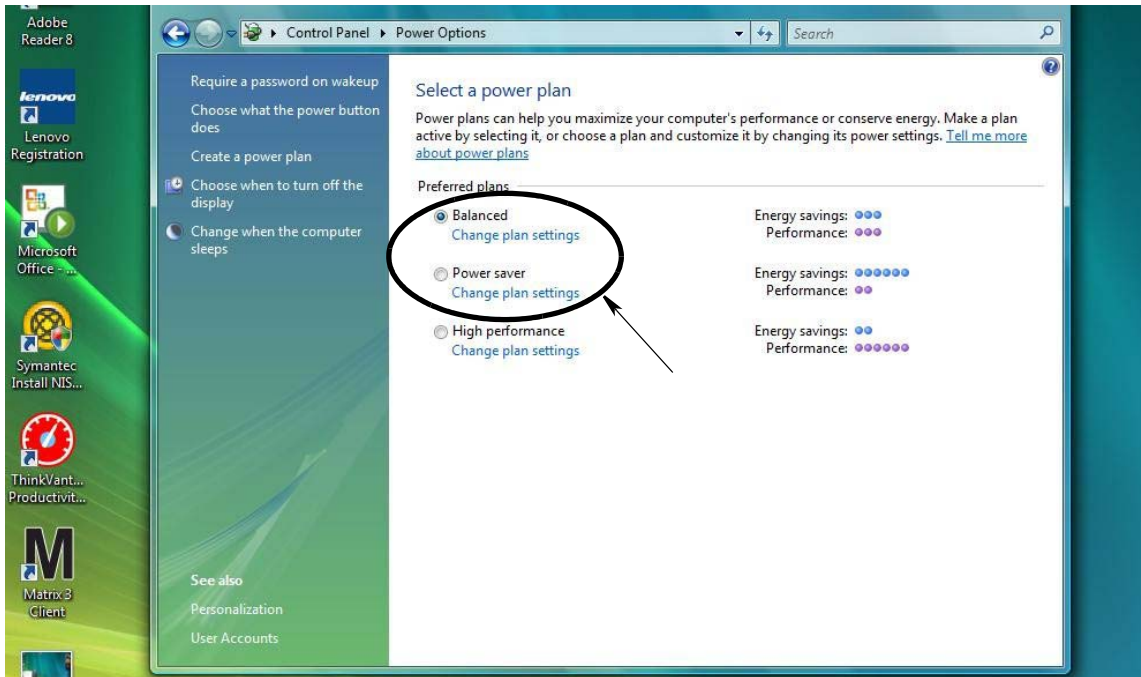

FIG. 48
3. Select either “Balanced” or “Power Saver” power plans and then click the Change Plan Settings link to view the hibernation options (FIG. 48).